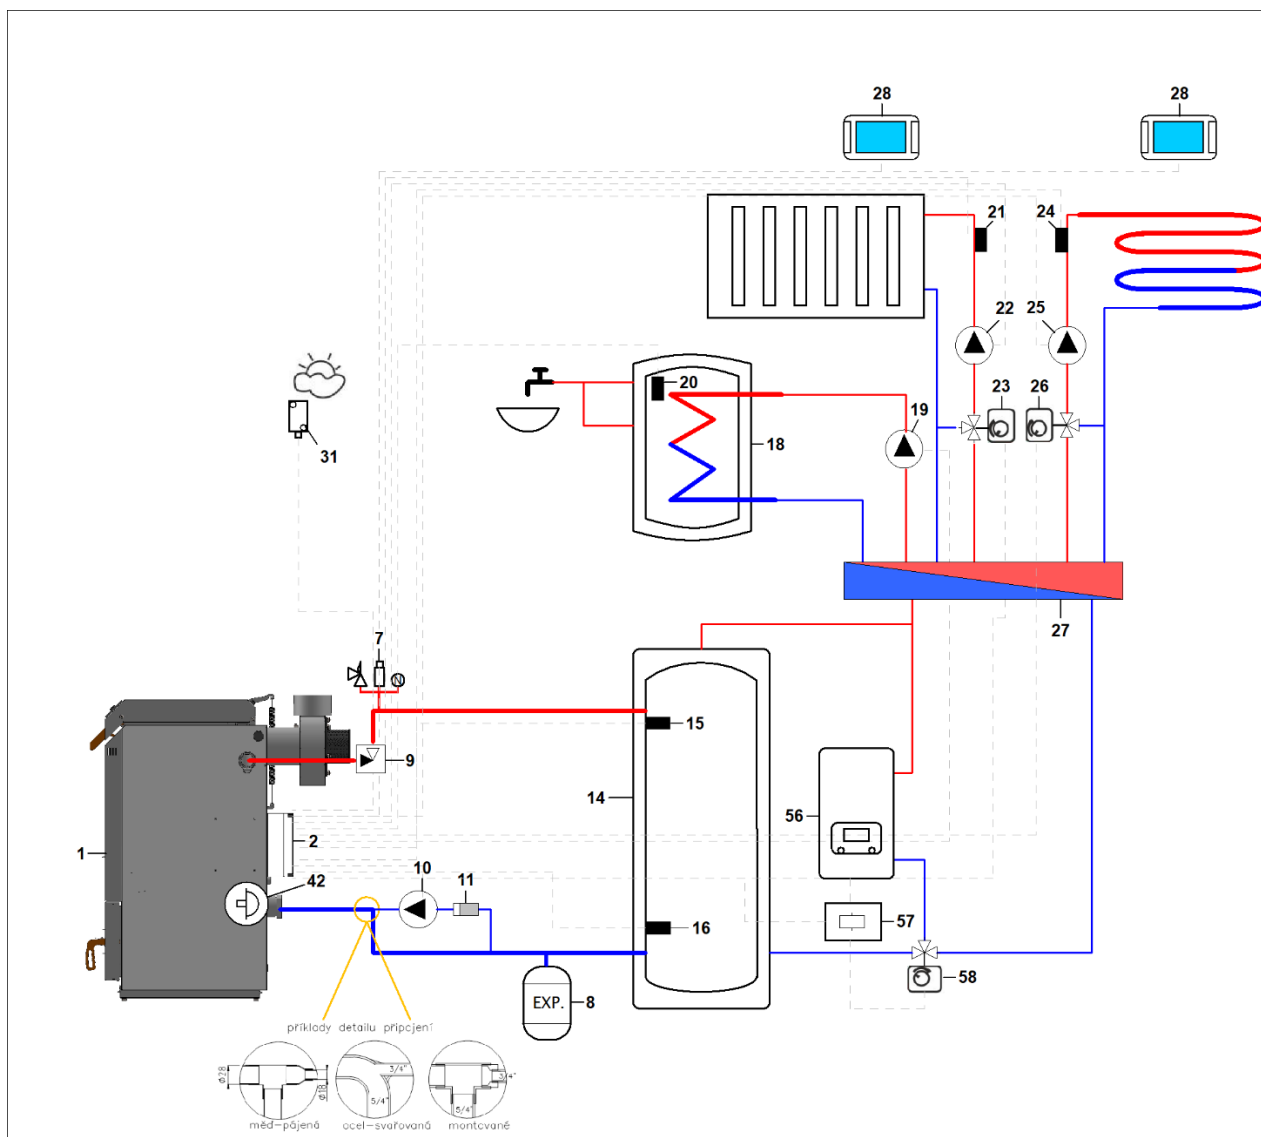

Figure 30. Hydraulic connection with reserve boiler (56) and diverter valve (58)
*A three-way diverter valve can be connected to separate the heating circuit and HUW from the storage tank to prevent it from heating up - see Figure 30.*